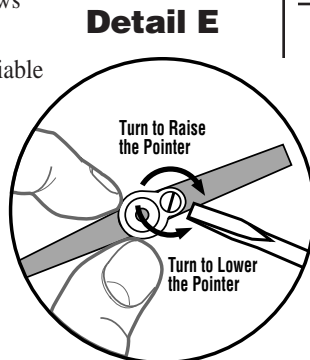

Fig. 3 SM Panel Tubing Configuration (SM2 Model shown)
6. For SMVR models, connect a second line from the tank top (if using UTKN kit, remove Hole Plug and install second sensor fitting and line) to the SMVR gage 1/8 NPTF fitting line. Second sensing line is to be installed through the tank top and into the tank, but keep the tip of the line above product level (refer to Fig. 2, at right and Fig. 3, next page).
The pump assembly should be installed near the SM or SMVR panel. Connect the pump as follows (refer to **Fig. 3 and 4** also see **Detail D**):